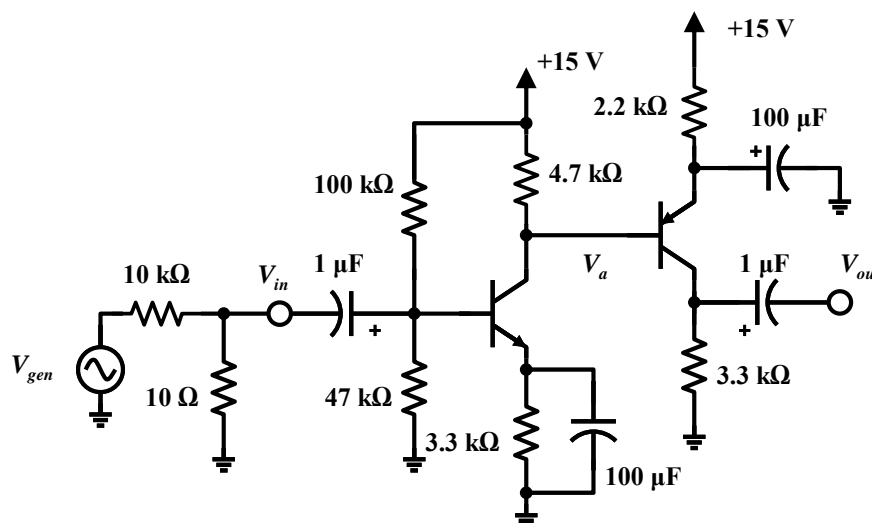

Figure 3-3 – Two-stage amplifier.
The circuit in Figure 3-3 is a cascade of two common-emitter stages, one with an NPN device and the second using a PNP device. Cascading gain stages has the advantage of increased gain, but comes at the expense of a decreased bandwidth, as you will see firsthand below.
- Construct the circuit in circuit Figure 3-3. Note the supply voltage has been increased to 15 V. Measure and record the mid-band AC voltage gain  $A_{vo} = V_{out} / V_{in}$  with a generator signal of 0.1V sinusoid at 10kHz. It may be difficult to see  $V_{in}$  on your oscilloscope because of the large step-down ratio of the voltage divider at the input (nominally a divide-by-1000). If so, increase the input signal briefly to establish the actual voltage division ratio, then use this information to calculate the  $V_{in}$  for a 0.1V generator input.